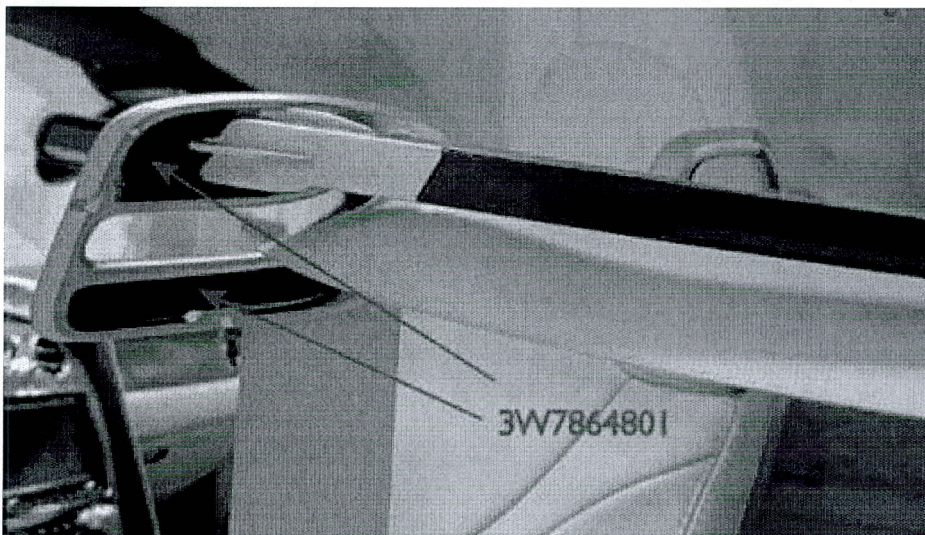

Figure 3
If the vehicle is not already listed as repaired in the "Repair History" (in ElsaPro), check for the presence of the neoprene foam pads on the rear of the seat belt presenters (Figure 3), should neither be evident carry out the required work in accordance with these instructions
4. Apply the neoprene foam pads contained in kit 3W7864801 that fit the left hand seat belt presenter (see Figure 3)
The presence of the neoprene foam pad on both seat belt presenters will serve to indicate the campaign has been performed (see Figure 3)